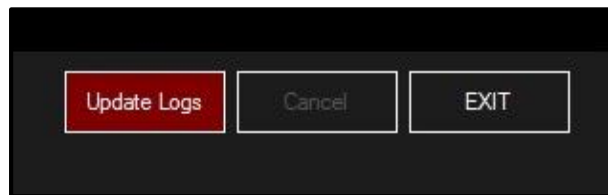

Figure 6.4-1: “Update Logs” Button
1. Press the “Update Logs” button on the Main Screen (Figure 6.4-1).